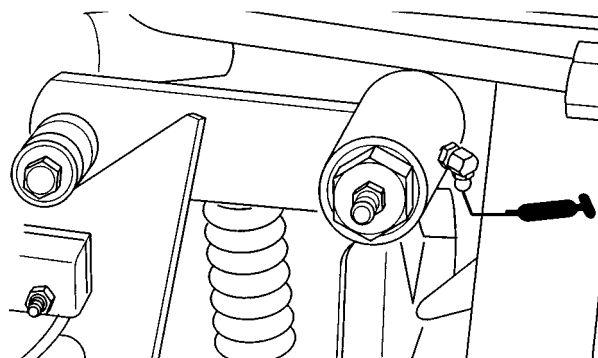
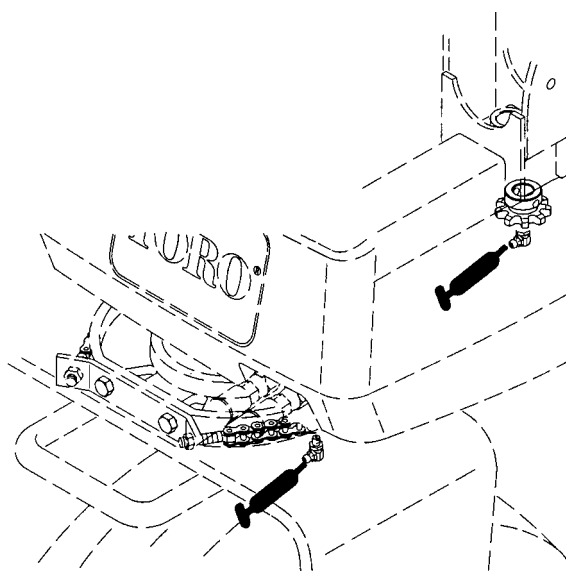
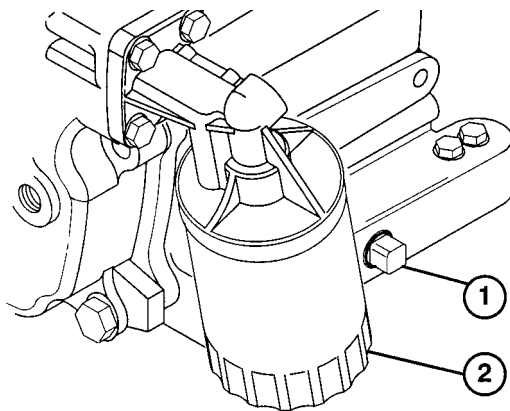

Figure 12
Figure 13
Figure 14
The bearings and bushings that must be lubricated are: the front wheel bearing (Fig. 12), the traction control linkage (Fig. 13) and steering shaft (Fig. 14).
**Note:** To gain access to the grease fitting on the traction control linkage (Fig. 13), remove the (3) screws securing the side panel to the right side of the machine and remove the panel.